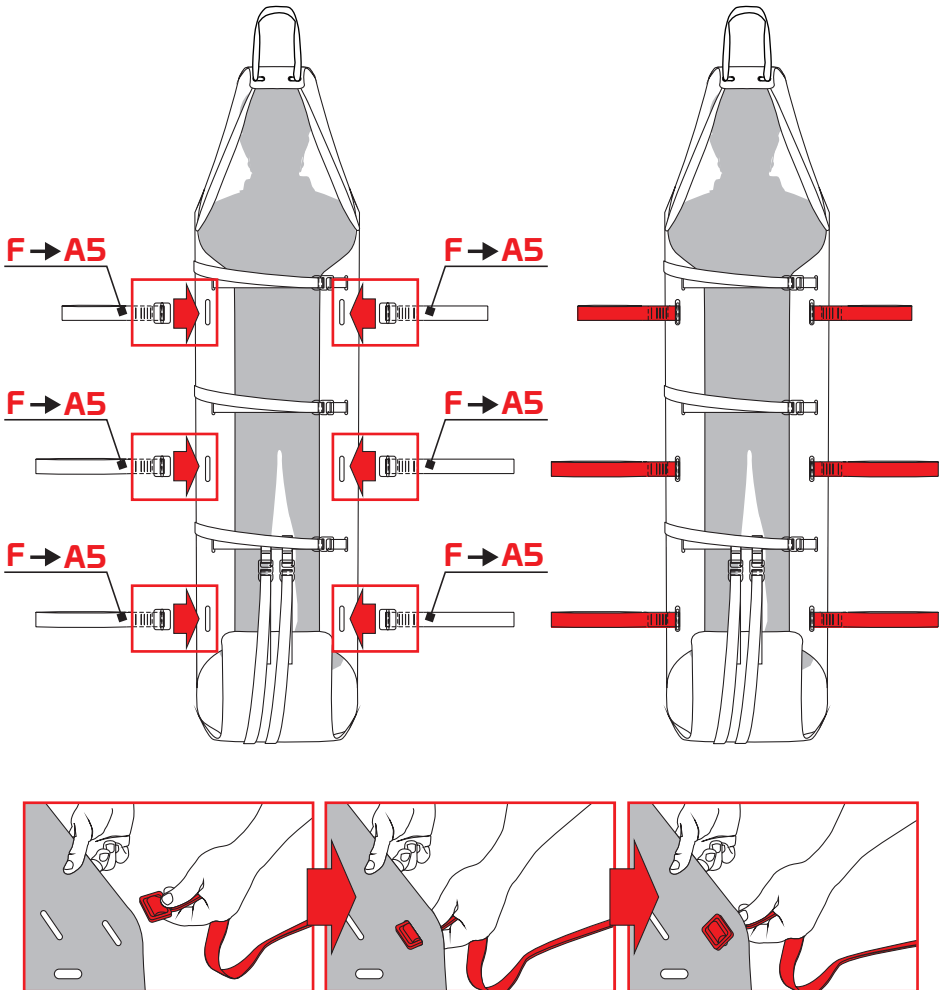

Fig.12
a) manual transport: insert only the side handles (F) in the eyelets A5 on the support surface (fig. 12) - Please note: we suggest inserting the shortest couple of handles in the place near the torso of the patient, in order to keep the head higher than the feet.